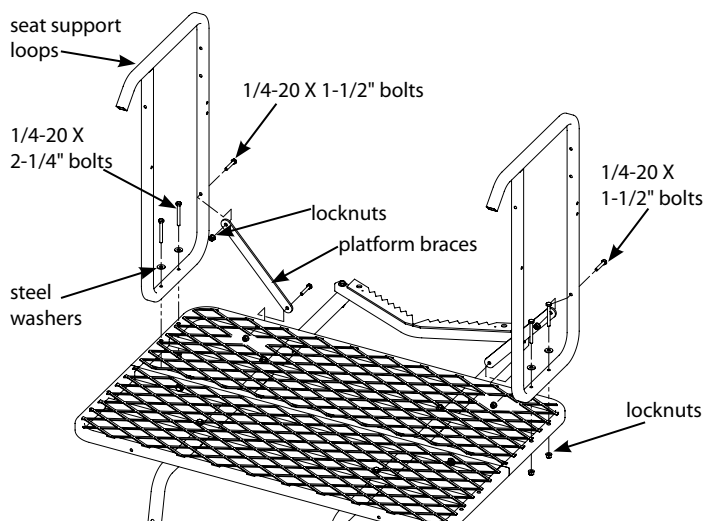

Figure 3
4. Attach the two side seat support loops (10322) to the rear platform using (4) provided 1/4-20 x 2-1/4" bolts, locknuts and steel washers. **SEE FIGURE 3.**
5. Attach the two ladder platform braces (LL9A) to the side seat support loops and rear platform using (4) provided 1/4-20 x 1-1/2" bolts and locknuts. **SEE FIGURE 3.**